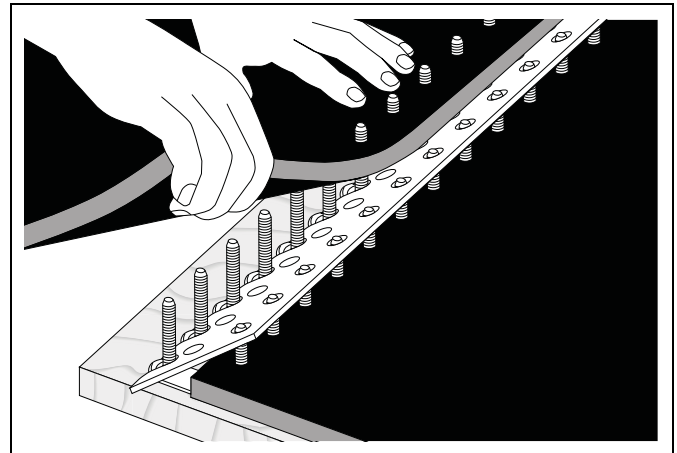

Figure 4Z
5. Align bolts with template teeth and place the other belt end over bolts. Remove template. *(See Figure 4Z.)*